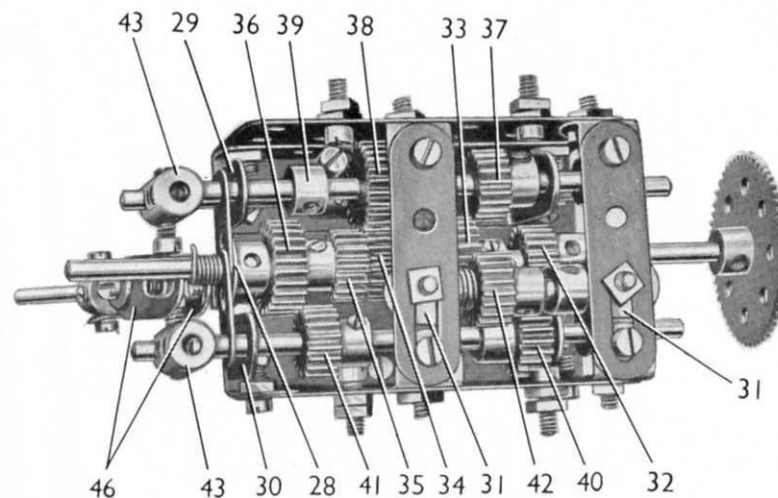

FIG. 7 A close-up of the 3-speed and reverse gear-box
### Assembling the Gear-Box (Fig. 7)
A  $3" \times 1\frac{1}{2}"$  Flat Plate is attached to each Angle Girder. The bolts that connect the Flat Girders secure also a  $1" \times 1"$  Angle Bracket (28) (Fig. 7), and a similar part at the opposite end of the frame. A  $1" \times \frac{1}{2}"$  Angle Bracket is also fixed to the centre of the Flat Girders, with a Fishplate bolted to it, so that the round hole in the Fishplate covers the slotted hole in the Angle Bracket.
The gear selector shafts are  $4\frac{1}{2}"$  Rods mounted above the layshafts, and each of them carries a Collar fitted with a  $\frac{3}{8}"$  Bolt. The Bolt on the selector shaft for 2nd and 3rd gears engages between the Pinion (38) and the Collar (39). The Bolt on the 1st and reverse gear shaft is located between the Pinion (41) and the Collar. Fishplates are passed over the output shaft and the ends of the layshafts as seen in Fig. 7. A Coupling (43) is fixed to each selector shaft